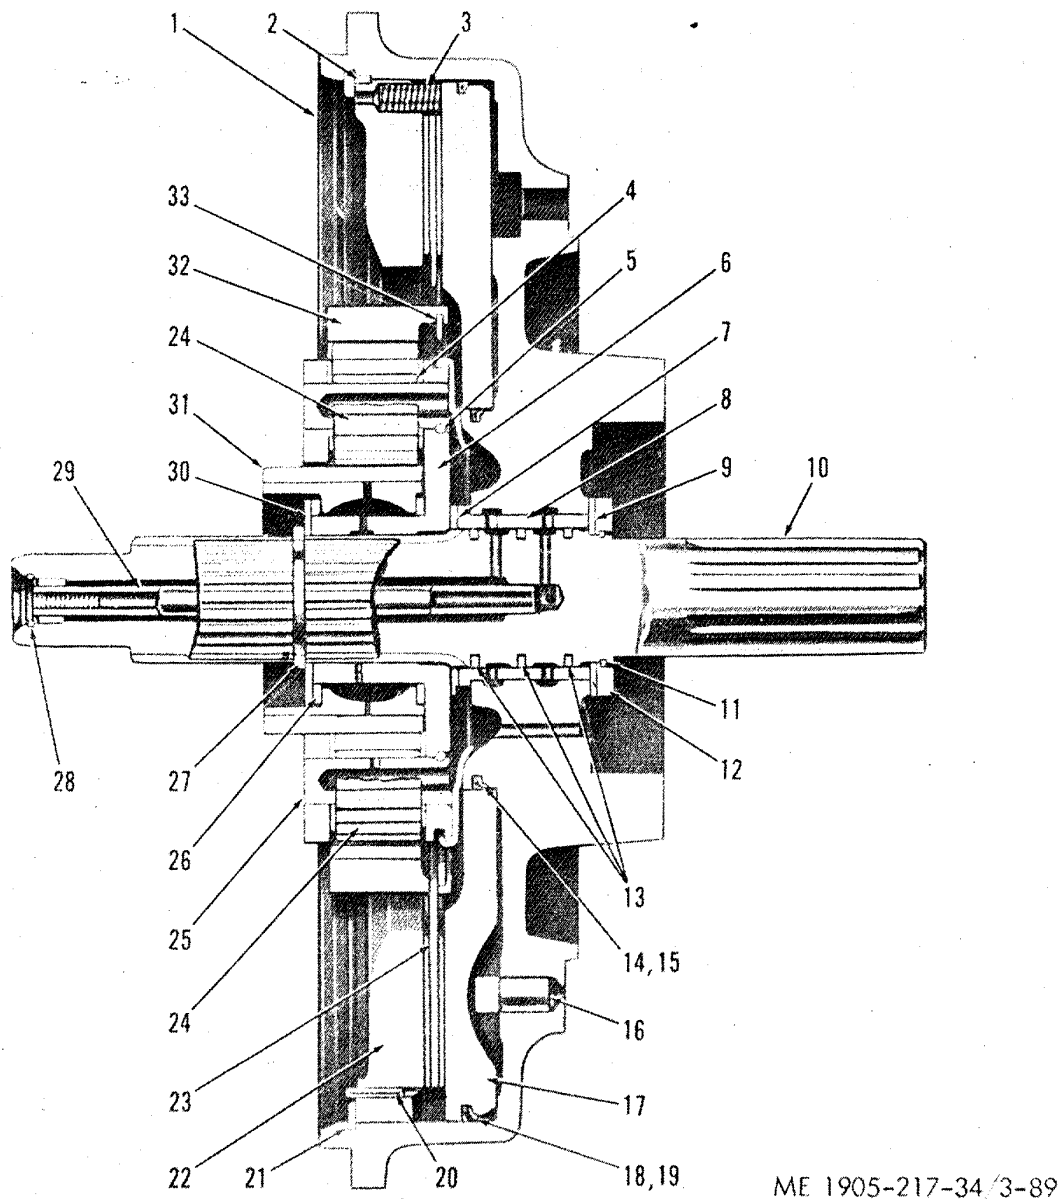
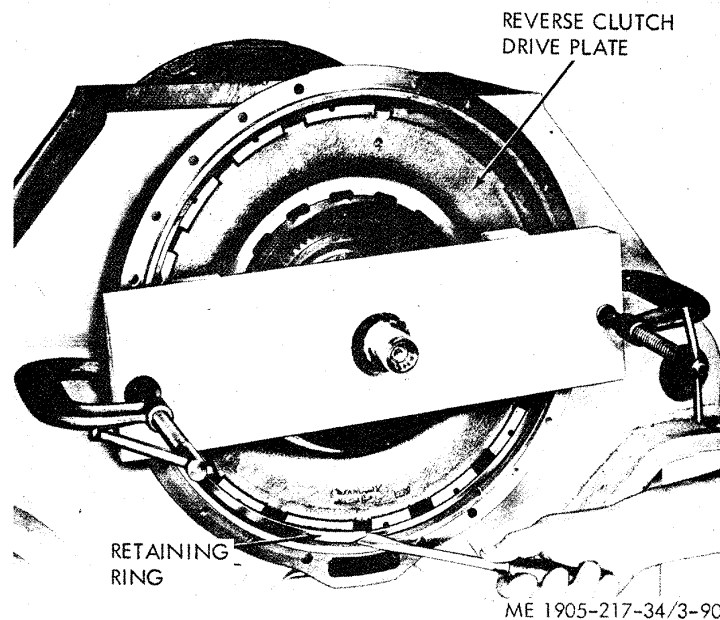

Figure 3-89. Reverse gear assembly, cross-section view.
Figure 3-90. Removing retaining ring from reverse gear housing.
(1) Reverse gear
(a) Remove the planetary gear retaining ring (27, figure 3-89) with a pair of snap ring pliers; then, slide the planetary gear retaining washer (3) off the end of the drive shaft (10). If the retaining washer tends to stick, it may be removed later with the sun gear.
Key to figure 3-89.
(f) Clamp a board across the face of the reverse gear housing with a 1 inch wood block at each end between the board and the clutch drive plate as shown in figure 3-90. Remove the retaining ring (21, fig. 3-89) from the groove in the housing with a screwdriver.
(u) If the reverse clutch drive pins (16, fig. 3-89) in the inner face of the reverse gear housing are damaged or worn excessively, they should be removed as outlined below: